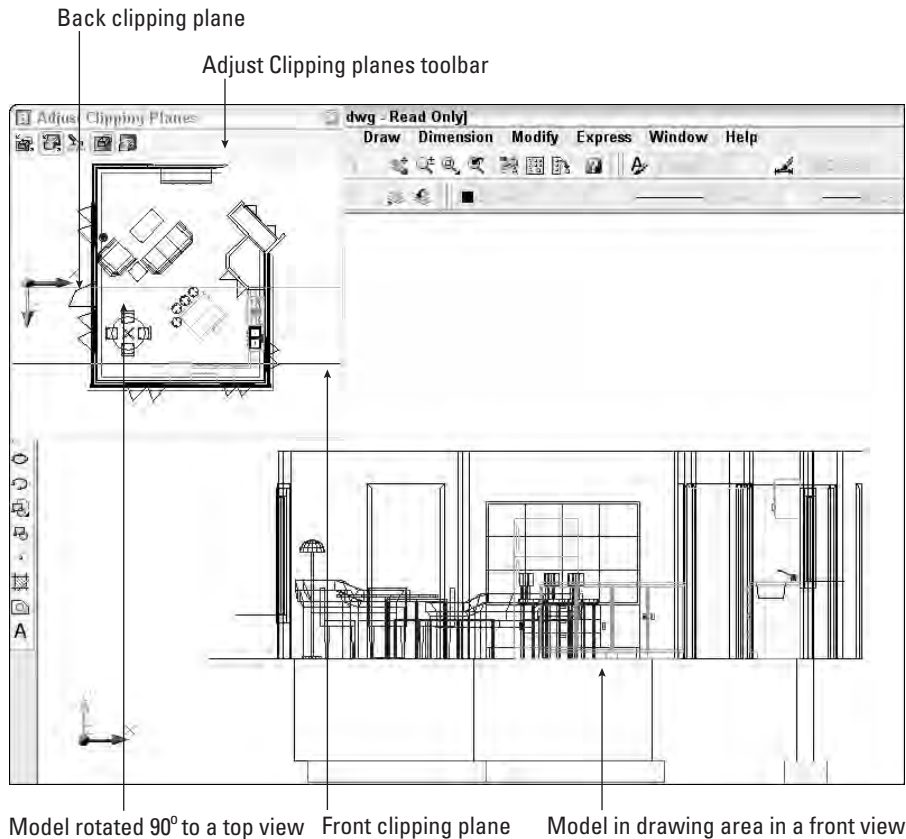
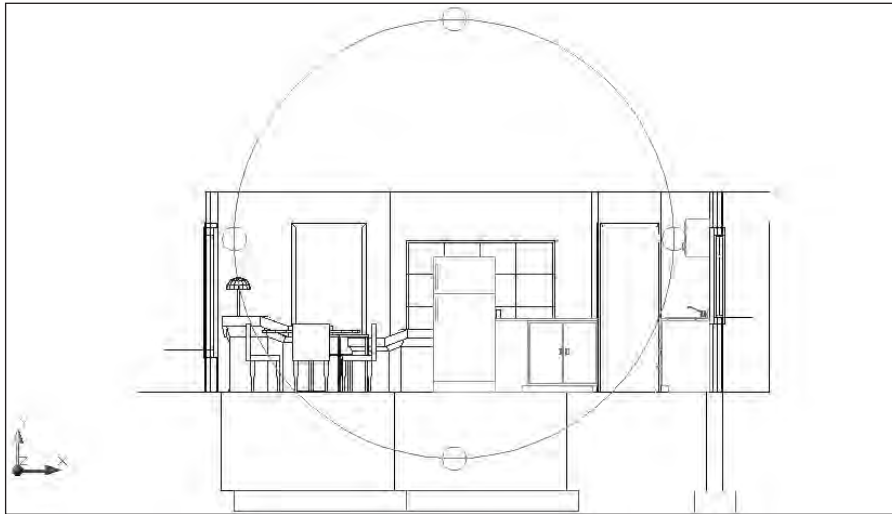

Figure 22-32: The Adjust Clipping Planes window, shown with the model on the drawing area
Figure 22-33: A house after setting clipping planes and using the Hide shading option
1. From 3D orbit, right-click and choose More ⇨ Adjust Clipping Planes. AutoCAD displays the Adjust Clipping Planes window, shown in Figure 22-32.
Figure 22-33 shows how the house shown in Figure 22-32 looks after setting clipping planes and changing the rotation slightly. The front and back walls have been clipped off.